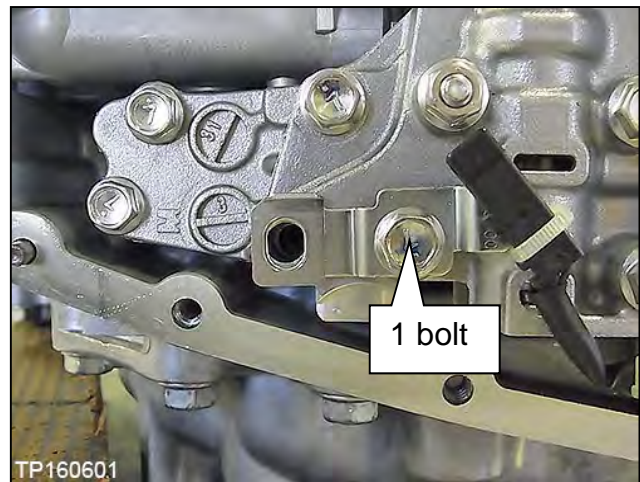

Figure 183
147. Install the CVT fluid temperature sensor bracket to the valve body with one (1) bolt (Figure 183).